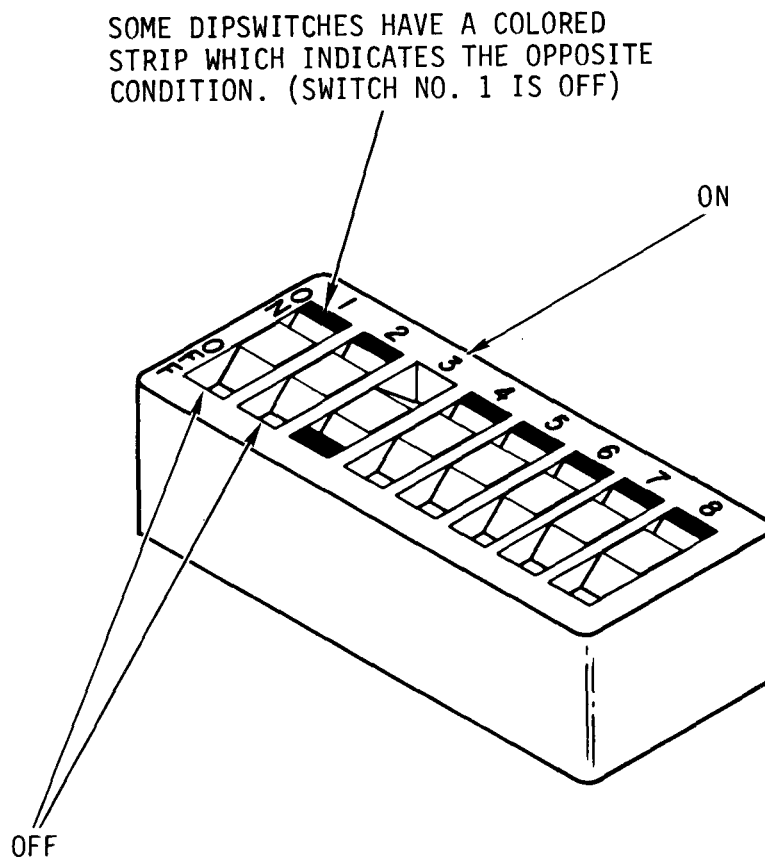

Figure 1-8. Dipswi tch Operati on
a. Dipswi tches. This type assembly (fig. 1-8) consists of from 2 to 10 ON/OFF swi tches. To set this kind of swi tch, you use a small jeweler' s-type, flat-bladed screwdriver to push down on the function end of a rocker-arm dipswi tch. Some swi tches have a colored strip that comes up flush with the top of the case on the opposite end to indicate that the dipswi tch is set. Others are marked 0 and 1. Remember, you push down the end indicating the desired function or option. You may hear or feel a small click as the swi tch changes position.